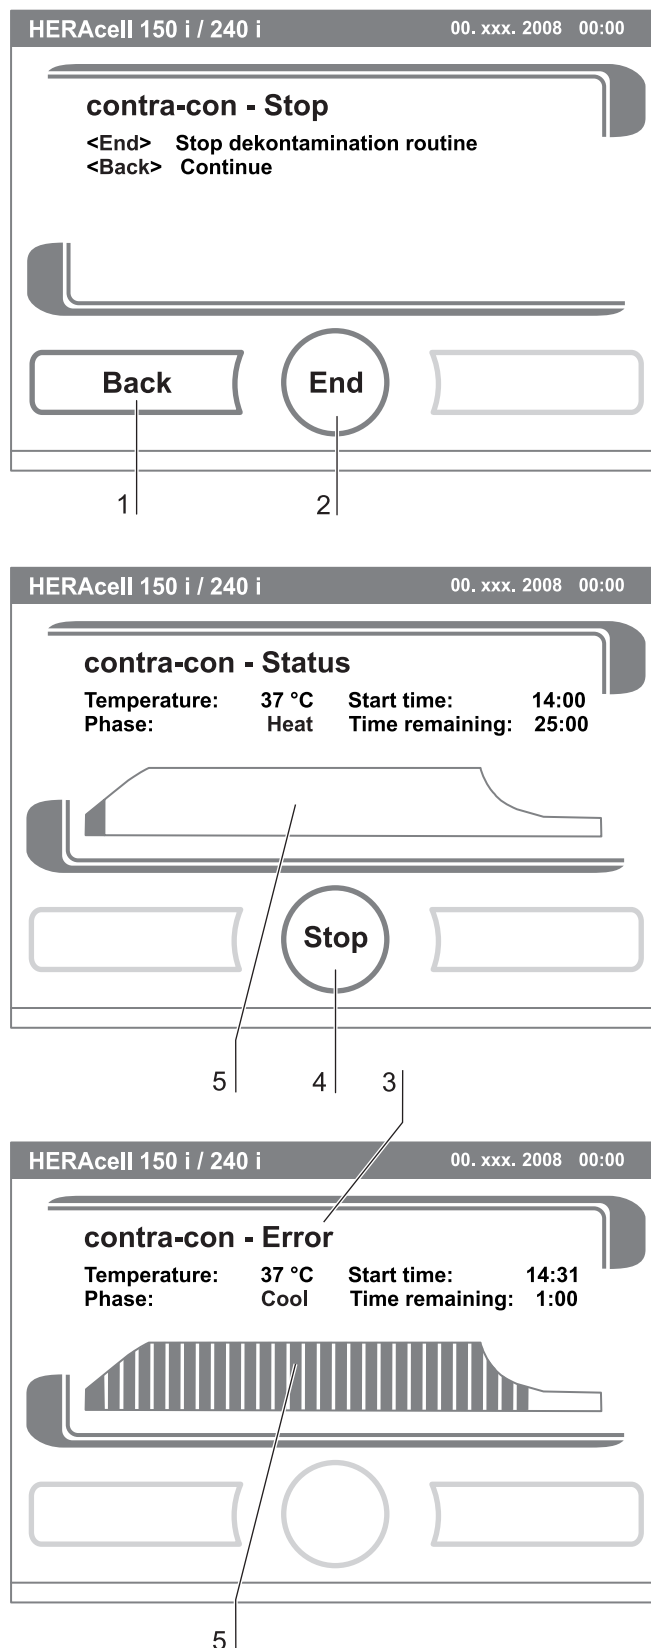

Fig. 68: Interrupting / cancelling contra-con
- **Fig. 68:** While the contra-con decontamination routine is running, the display shows the current status [5] and outputs the following information: